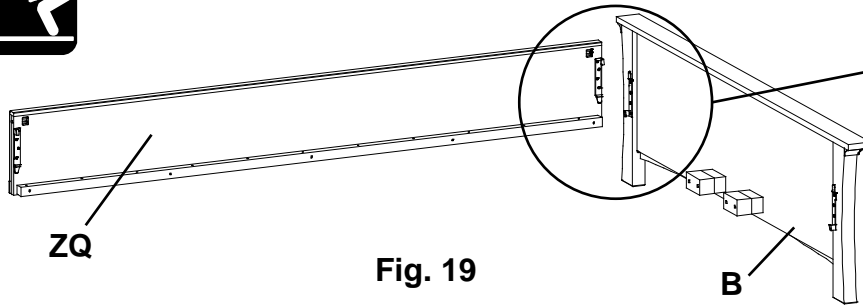

Fig. 19
19. To attach the Footboard (B) to the Side Rail (ZQ), align the Brackets and slide the Side Rail down on to the Footboard (B). See Figures 19 and 19a.